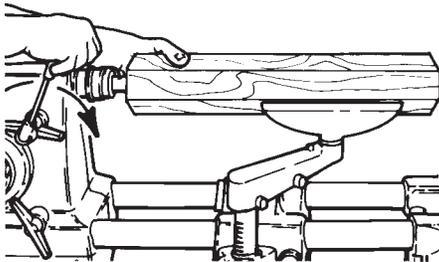

Figure D-43
- e. Hold the end of the stock against the cup center, then extend the quill and mount the other end on the drive center. Press hard against the quill feed lever, then lock the quill. See Figure D-43.